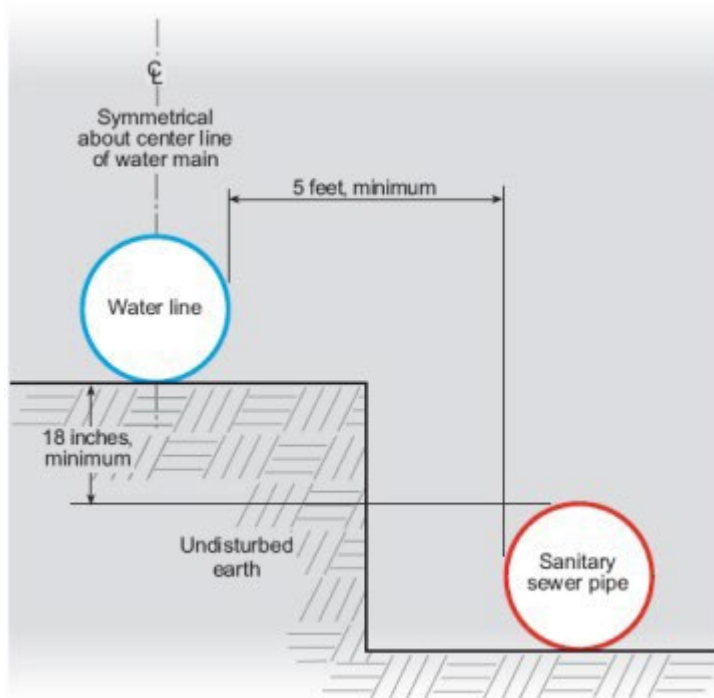

Figure C1-3. Required Separation between Water Lines and Sanitary Sewers, Unusual Conditions Parallel Construction
- If sewers must be located in the same trench as a potable water line, special construction and mitigation is required. Both water lines and sewer lines shall be constructed with a casing pipe of pressure-rated pipe material designed to withstand a minimum static pressure of 250 PSI. The water line shall be placed on a bench of undisturbed earth with the bottom of the water pipe at least 18 inches above the crown of the sewer, and shall have at least 5 feet of horizontal separation at all times. Additional mitigation efforts, such as impermeable barriers, may be required by the appropriate state and local agencies. See Figure C1-3.